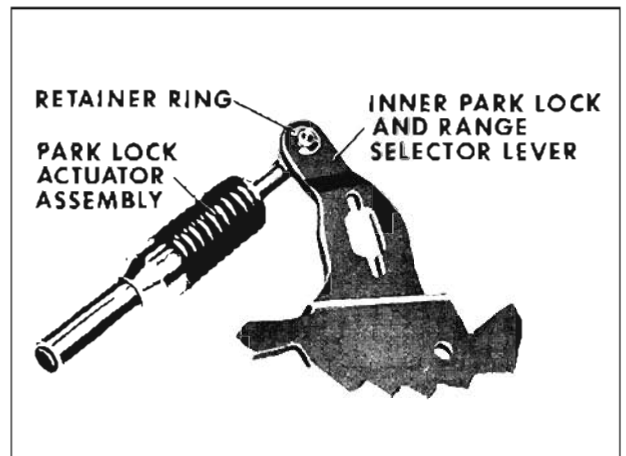

Fig. 6-301 Removing Park Lock Actuator
5. Remove retaining ring which holds inner park lock and range selector to park lock assembly. (Fig. 6-301)